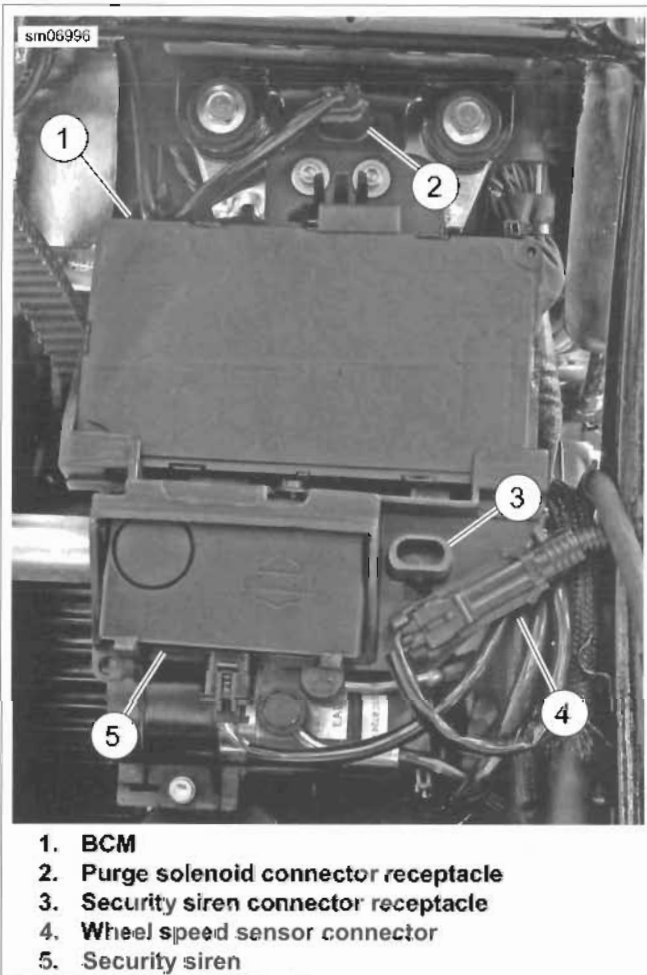

Figure 7-93. Body Control Module (BCM): All But FXSB
3. See Figure 7-93. Disconnect rear wheel speed sensor connector (4).
3. See Figure 7-93. Connect rear wheel speed sensor connector (4).